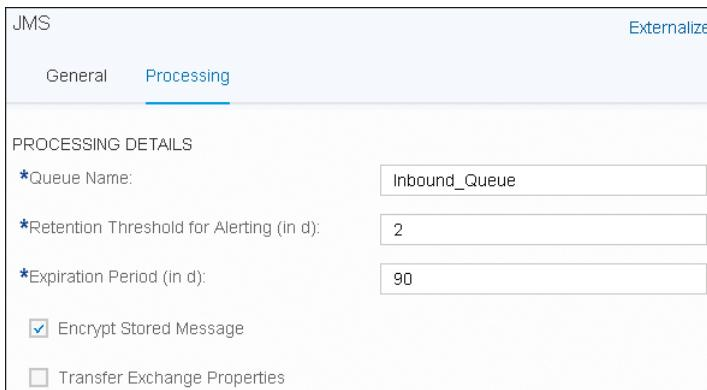

Figure 5.82 JMS Receiver Channel Configuration
6. In the **JMS** channel's **Processing** tab, configure the following properties, as shown in Figure 5.82: